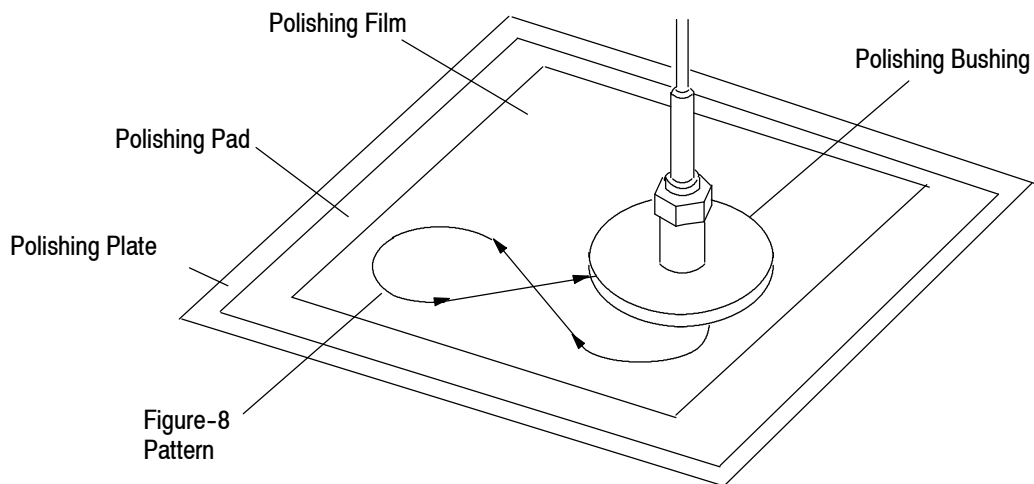

Figure 7
4. A polishing pad and a polishing plate must be used to support polishing films during polishing of the terminus end. When polishing, the terminus must be moved in a figure-8 pattern to ensure that the full circumference of the optic fiber is even polished. See Figure 7.